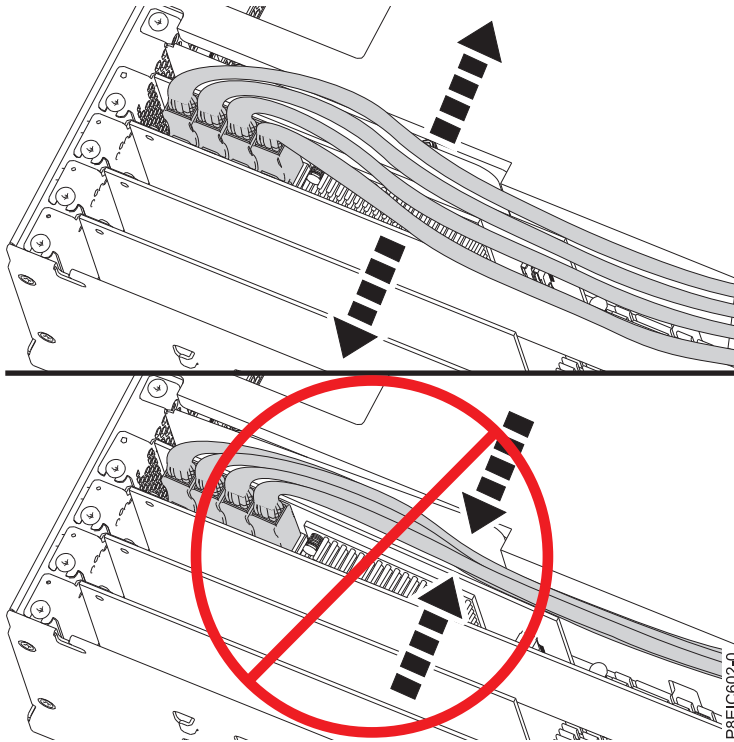

Figure 37. Routing the disk drive signal cables
- Spread the cables to ensure that the service access cover can be closed without pinching the cables. See Figure 37.